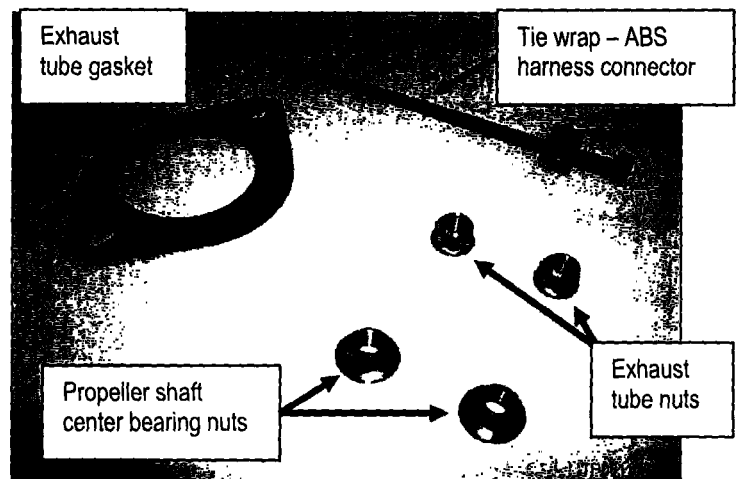

Figure 1c
- Propeller shaft center bearing nuts (see Figure 1c)
- Exhaust tube nuts (see Figure 1c)
- Exhaust tube gasket (see Figure 1c)
- Tie wrap - ABS harness connector (see Figure 1c)